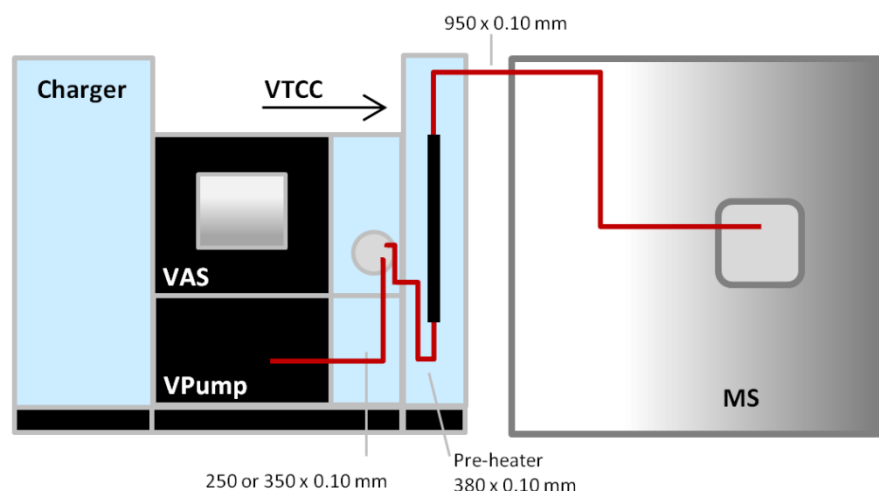
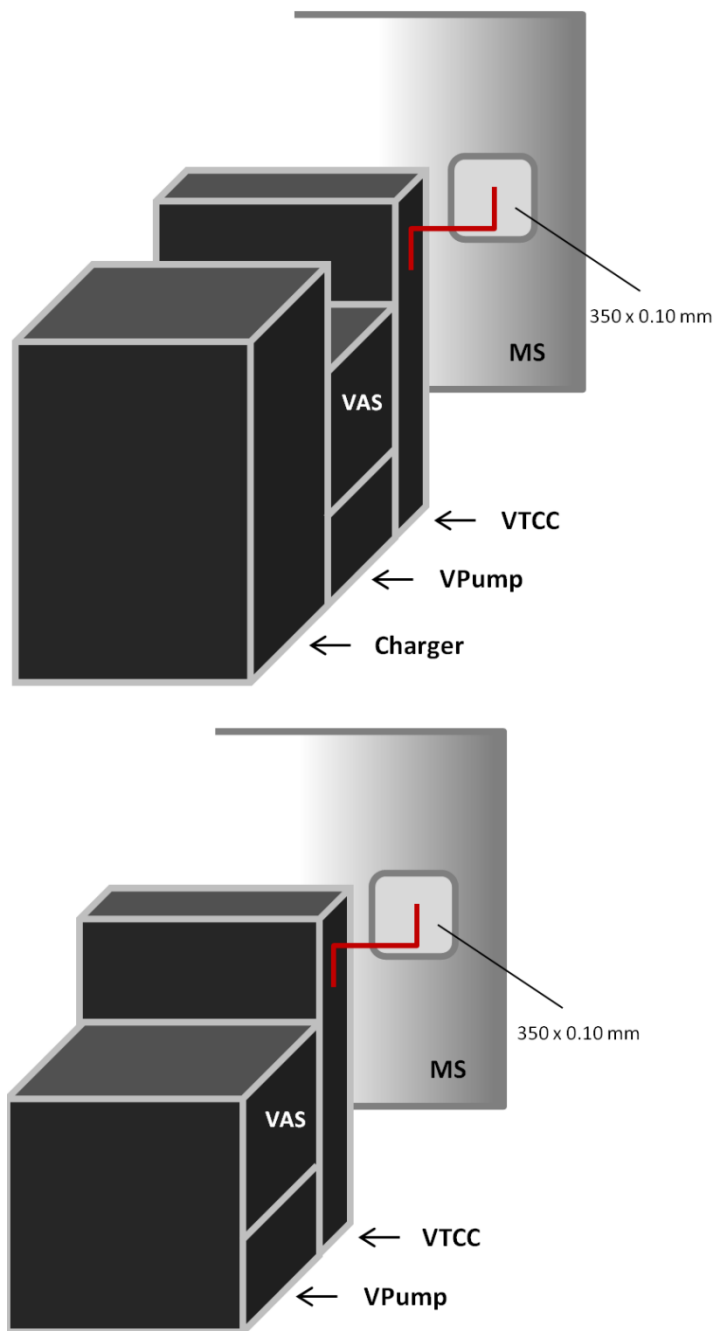

Figure 4. Setup for a Vanquish system with a Charger as front-end for Exactive mass spectrometers.
Figure 6. Setup for a Vanquish system with or without Charger as front-end for Exactive mass spectrometers.
- 2) Stack the modules as shown below and make all fluidic connections using Viper capillaries, according to Figure 4. The picture illustrates the course of the flexible Viper capillaries in general. Thermo Fisher Scientific recommends installing all capillaries inside the modules as needed. Table 4 provides a detailed overview on the capillaries used and where to find them.
- 2) Stack the modules as shown below and make all fluidic connections using Viper capillaries, according to Figure 6. For further details about the course of the flexible Viper capillaries see Figure 4. Thermo Fisher Scientific recommends installing all capillaries inside the modules as needed. Table 6 provides a detailed overview on the capillaries used and where to find them.